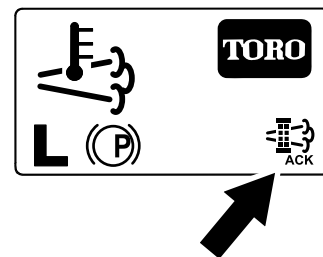

Figure 55
8. The InfoCenter displays the home screen and the regeneration acknowledge icon (Figure 55) appears in the lower right corner of the screen as the regeneration processes.